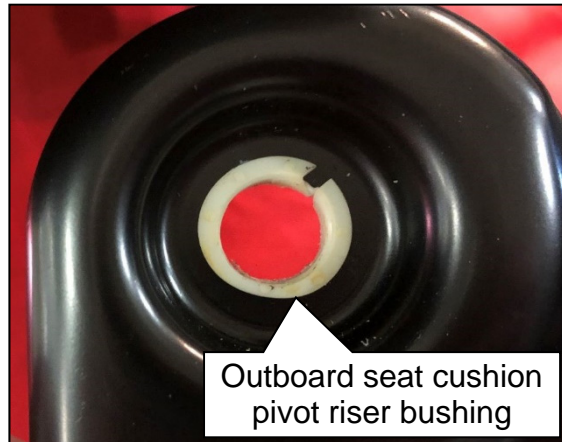

Figure 12
13. With the outboard seat cushion pivot riser facing up, install the new bushing into the hole with the larger flange facing up (Figure 12).